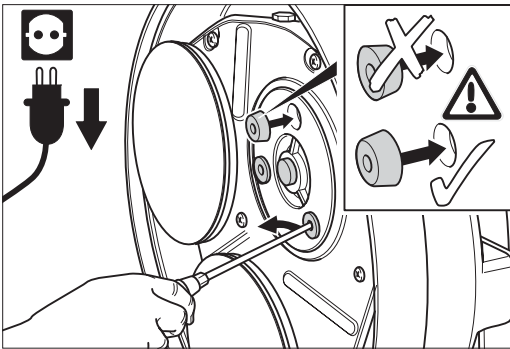

Fig. 57 Replacing the rubber bearings. Make sure of the correct insertion position!
- 6 Use a screwdriver to prize the rubber bearings out of the sanding disc gear (Fig. 57).
- 7 Insert the new rubber bearings. Make sure you have the correct insertion position! The larger diameter of the bearings must be inserted in the hole first (Fig. 57)!